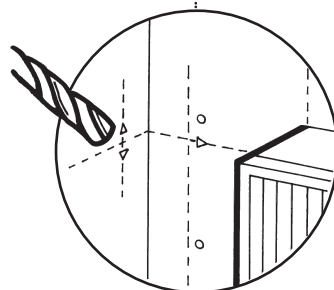

Fig. 44
12. Cut a hole approximately 107mm ($4\frac{1}{4}$ in) diameter in the masonry for the 100mm (4 in) diameter flue duct (Fig. 44). (Use of a core drill is recommended. When using a core drill, it is important to keep the drill level and square, particularly with the wall onto which the boiler is to be fitted).